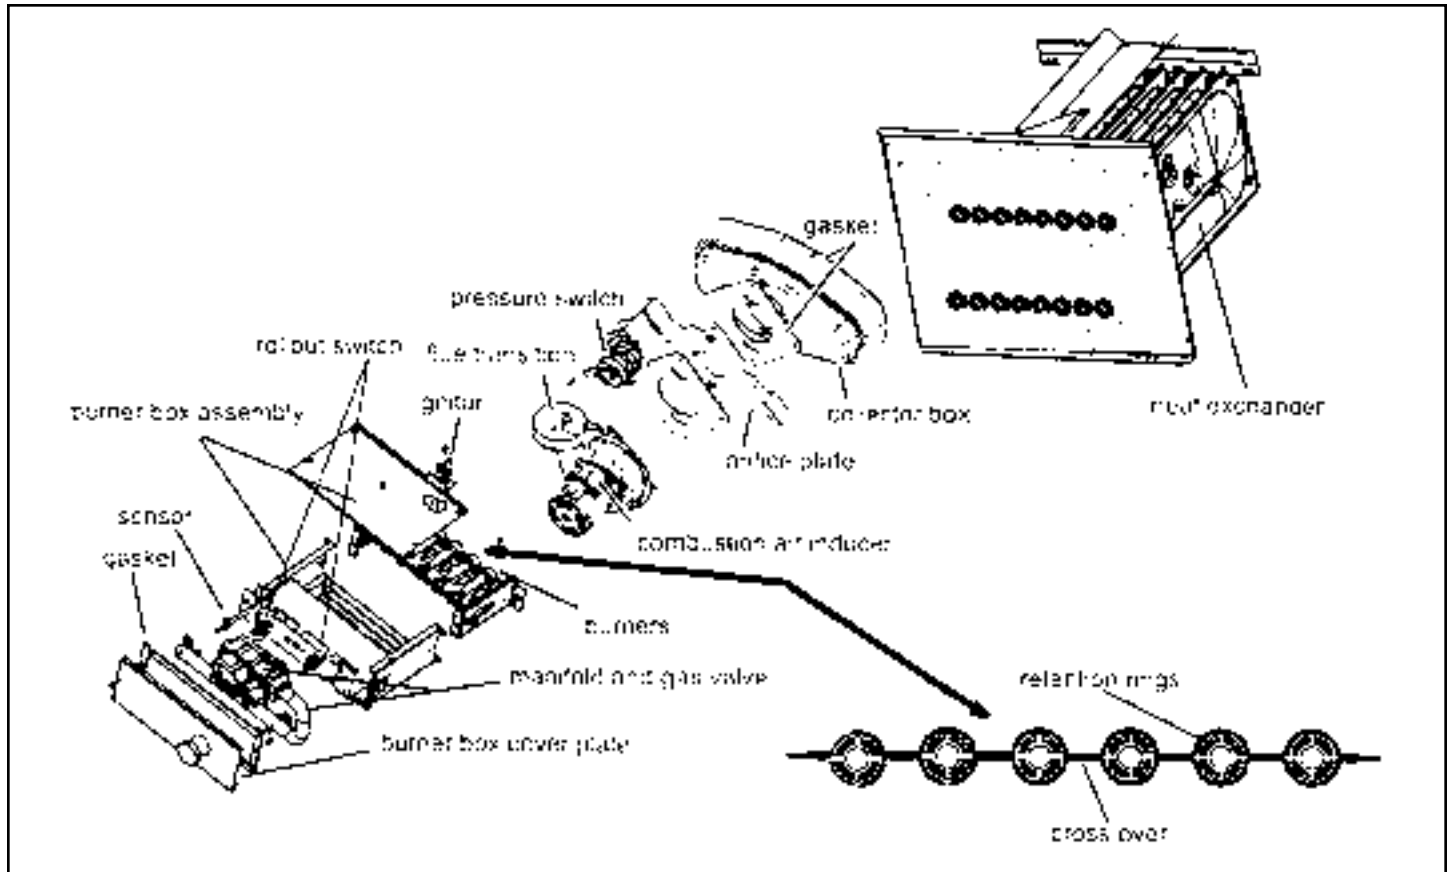

Figure 47. A80US2V Burner, Combustion Air Inducer Assembly & Heat Exchanger Removal
12. To clean burners, run a vacuum cleaner with a soft brush attachment over the face of burners. Visually inspect inside the burners and crossovers for any blockage caused by foreign matter. Remove any blockage. Figure 47 shows burner detail.